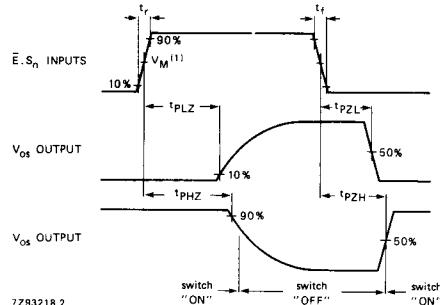

Fig. 19 Waveforms showing the turn-ON and turn-OFF times.
**Note to Fig. 19**
(1) HC :  $V_M = 50\%$ ;  $V_I = \text{GND to } V_{CC}$ .